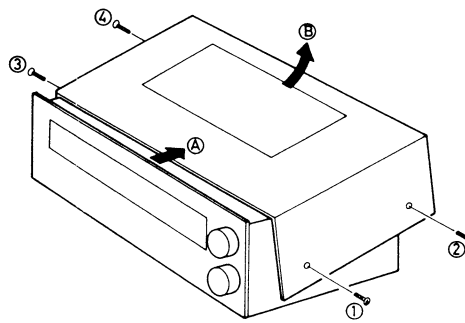

Fig. 7
1. Remove the four cabinet mounting screws (nos 1~4 screws in fig. 7).
2. Sliding it toward (A) direction and lifting it upward (B) direction as shown in fig. 7.